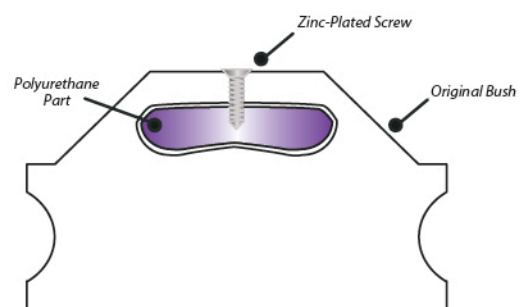

Figure 1
4. Fasten the screw through the bush and into the insert, from the nearest surface to the insert as shown in Figure 1. This will hold the insert in place.